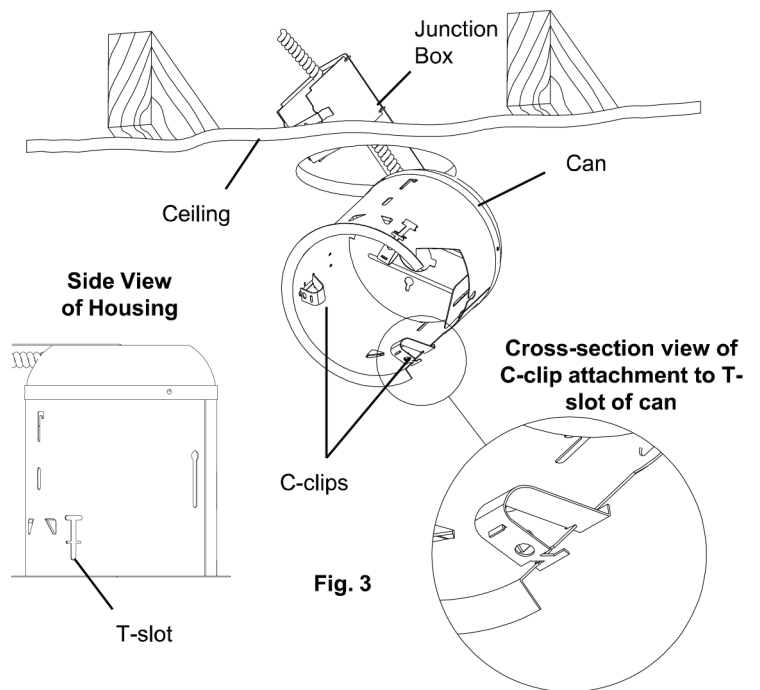

Fig. 3
4. Attach the provided C-clips onto the inside surface of the can by inserting the ends into the provided T-slots, as shown. Feed the junction box through the ceiling hole, followed by the can. Allow the C-clips to hang on the inside surface of the can until the can is completely inserted into the ceiling. (Fig. 3)
2. Raise the housing/hanger bar assembly to the desired location between the two ceiling joists. Adjust the width of both hanger bars to the distance between the joists. Position the assembly so that the mounting clips of the hanger bars cup underneath the bottom edges of the joists. Hammer down the nails of the hanger bars into the joists to secure the assembly into place. (FIG. 3 and FIG. 4)